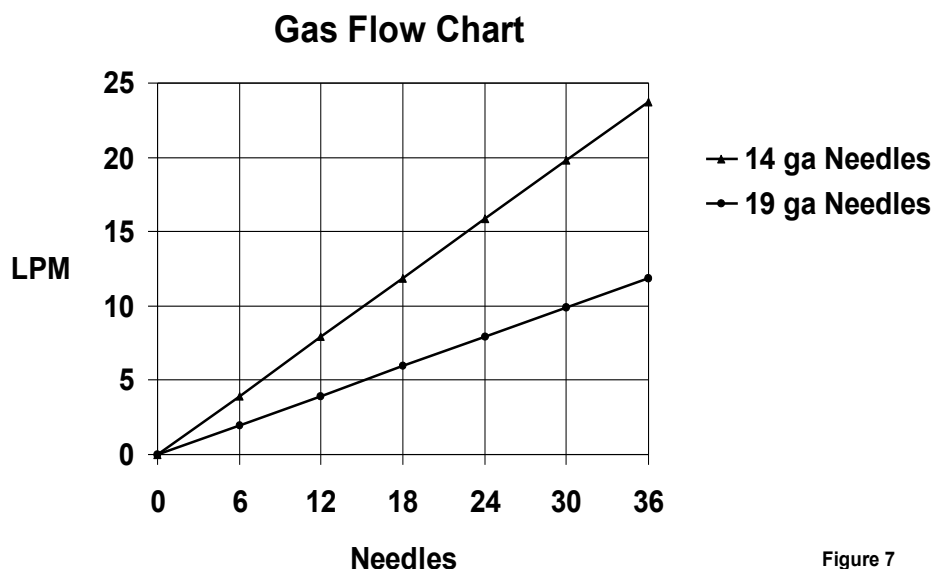

Figure 7
6. Adjust the flow meter needle valve to the correct flow rate for the number of positions being used. Please reference Figure 7. Doubling the gas flow rate will increase the evaporation rate up to 50% in most cases.